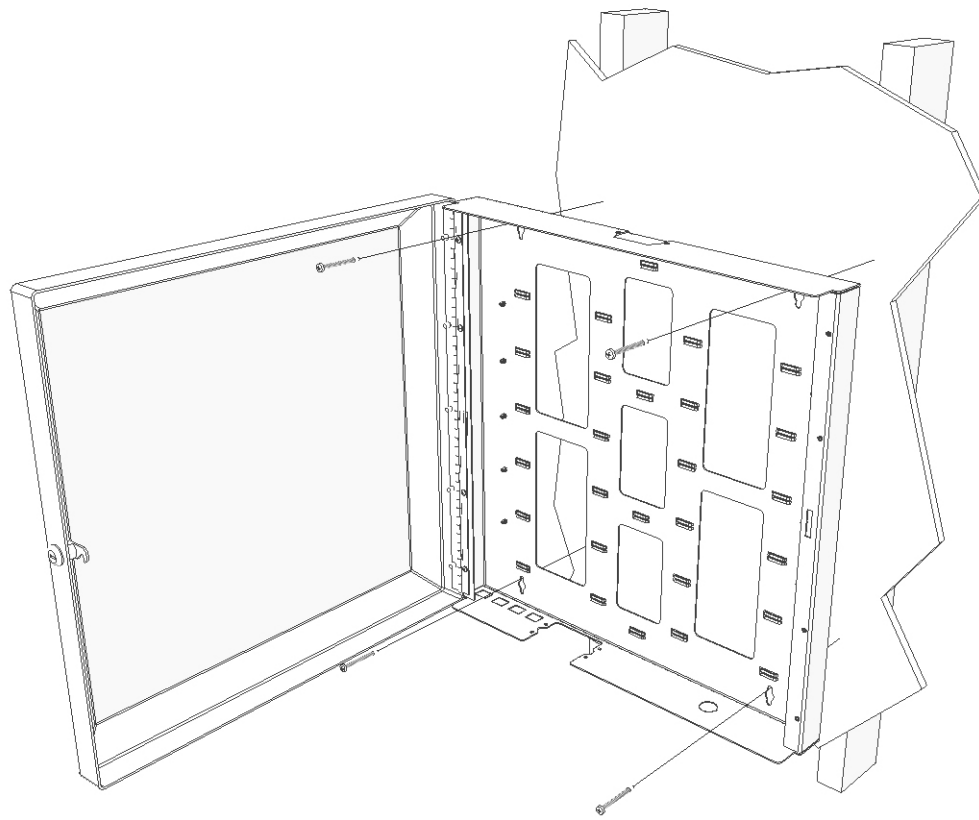

Figure 1
Step 1 – Mount the Network Cabinet to the wall using four (4) #10 screws or larger (not included). Use screws or wall anchors appropriate for the wall surface (wood screws, dry wall anchors, concrete anchors, etc.) The keyholes are on 16" centers (Figure 1) to permit the cabinet to be supported by wall studs.